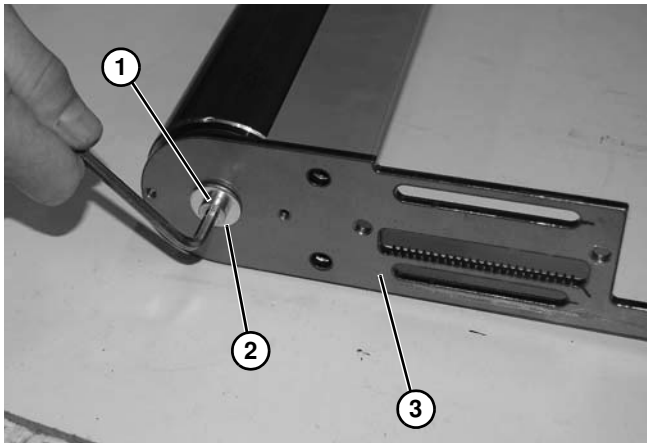

Figure 111
11. Remove screw (**Figure 111, item 1**) and washer (**Figure 111, item 2**) securing tension tail plate (**Figure 111, item 3**) onto pulley.